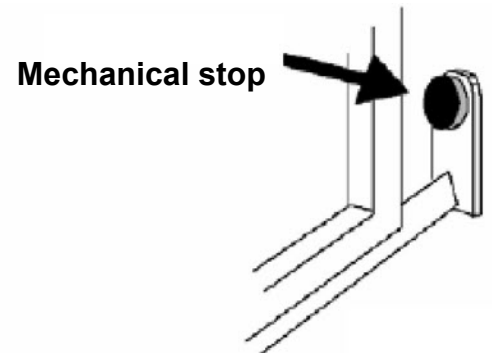
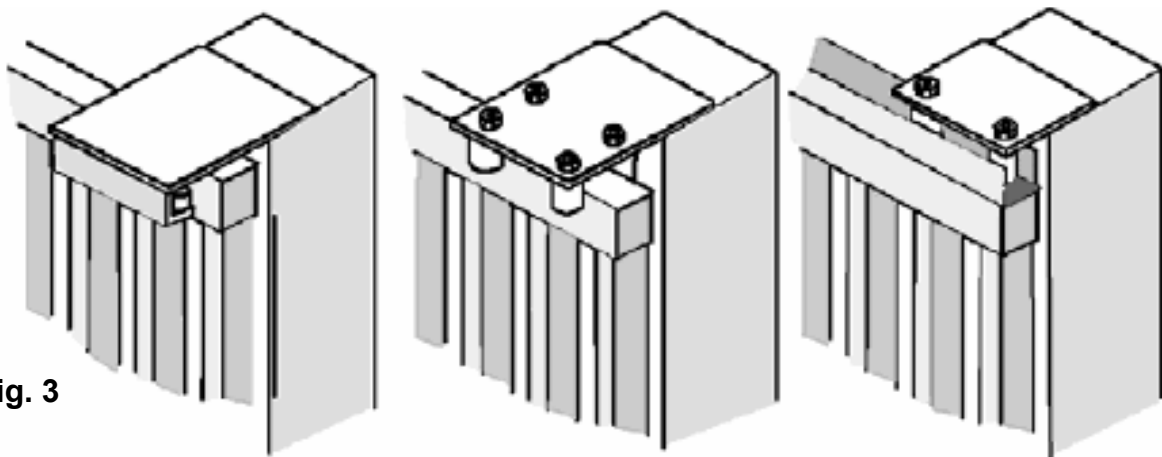

Fig. 2
Fig. 3
- Also check that the runner on the ground ( **Fig. 1** ) is not deformed, is perfectly level and that the mechanical stop is present on opening ( **Fig. 2** ) in order to **prevent** the gate from going beyond the upper runners ( **Fig. 3** )
- Check the upper runner ( **see Fig. 3** ) is firm and the gate slides freely.
Position the operator and fasten it with the bolts provided. **A** (**Fig.2**).
Fasten the rack to the gate firmly, leaving a distance of between 2 and 3 mm from the motor pinion (**Fig.3**).